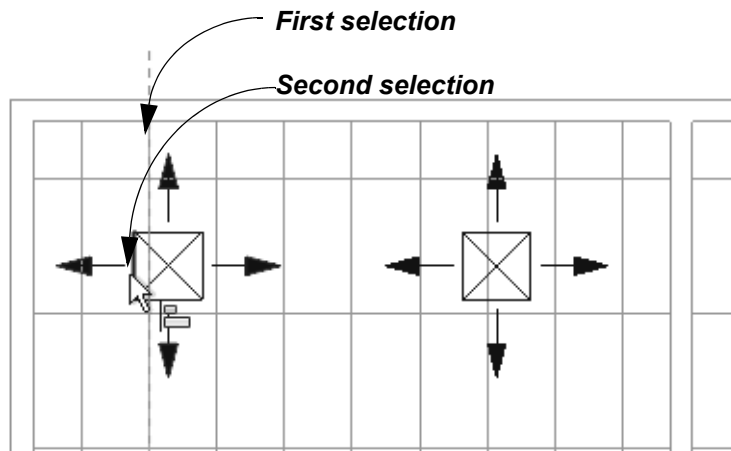

Figure 2–86
4. Select a vertical grid line and then the side of the air terminal, as shown in Figure 2–86.